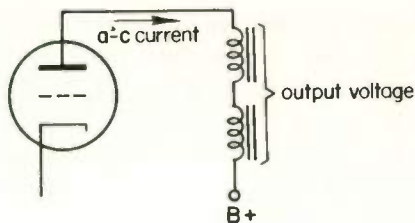

Fig. 22
3. Inductors are often used in the plate circuits of audio amplifiers, as shown in Fig. 22. The reactance of the inductors provides a load across which the a-c voltage amplified by the tube is developed. There a-c current flows out of the tube and through the reactance, thereby